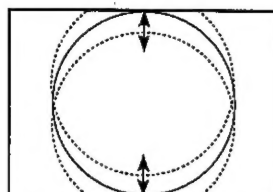

Fig. 7
- Adjust the vertical size to obtain overscan (fig. 7).